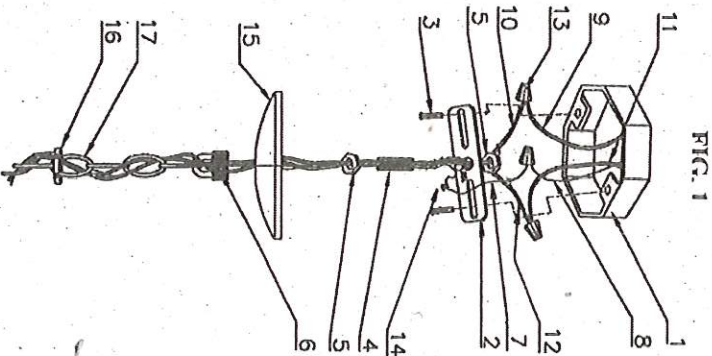

FIG. 1
1. Take the parts out of the mounting package. Screw the end of the NIPPLE (4) into the center hole of the MOUNTING BRACKET (2) and thread both 1/8" IPS HEX NUTS (5) several turns onto each end of the NIPPLE (4) but do not tighten the 1/8" IPS HEX NUTS (5). Pull the SUPPLY WIRES (9 & 11) and the SUPPLY GROUND WIRE (8) out from the OUTLET BOX (1) and attach the MOUNTING BRACKET (2) assembly to the OUTLET BOX (1) using the slotted holes of the MOUNTING BRACKET (2) and the MOUNTING SCREWS (3) provided. (See Fig. 1)
2. Thread the SCREW COLLAR LOOP (6) onto the bottom end of the NIPPLE (4). Place the CANOPY (15) over the OUTLET BOX (1) and adjust the SCREW COLLAR LOOP (6) and NIPPLE (4) until the midpoint of the outside threads on the SCREW COLLAR LOOP (6) is centered (aligned) with the surface of the CANOPY (15). Remove the CANOPY (15) and tighten both 1/8" IPS HEX NUTS (5) down on the MOUNTING BRACKET (2) and the SCREW COLLAR LOOP (6). (See Fig. 1)
3. Thread the NIPPLE (21) onto the HICKY (22), secure with the HEX NUT (22), slide the TOP FONT (20), WASHER (19) over the NIPPLE (21), thread the FIXTURE LOOP (18) onto the NIPPLE (21) till tight.
4. Open up the end links of the CHAIN (17) and attach one end of the CHAIN (17) onto the FIXTURE LOOP (18). Slide the THREADED RING (16) and the CANOPY (15) onto the CHAIN (17) (in that order) and attach the other end of the CHAIN (17) to the SCREW COLLAR LOOP (6). Close the ends of the chain links. (See Fig. 1 and 2)
5. Unravel the fixture lead wires (10 and 12) and FIXTURE GROUND WIRE (7) and thread them through every other link of the CHAIN (17) starting with the chain link attached to the FIXTURE LOOP (18). Feed the fixture lead wires (10 and 12) and FIXTURE GROUND WIRE (7) through the SCREW COLLAR LOOP (6) and NIPPLE (4) assembly. Pull the fixture lead wire (10 and 12) and the FIXTURE GROUND WIRE (7) upward to remove any excess slack. (See Fig. 1)
6. Attach the power supply wires to the fixture lead wires by connecting the BLACK SUPPLY WIRE (9) to the SMOOTH FIXTURE LEAD WIRE (10) and the WHITE SUPPLY WIRE (11) to the RIBBED FIXTURE LEAD WIRE (12). Loop the FIXTURE GROUND WIRE (7) around the GROUND SCREW (14) of the MOUNTING BRACKET (2). (Note: Be sure to provide an extra 3" length of the GROUND WIRE (7).) Connect the remaining FIXTURE GROUND WIRE (7) to the SUPPLY GROUND WIRE (8) using a WIRE CONNECTOR (13). Place wiring and connections inside the OUTLET BOX (1). (See Fig. 1)
7. Slide the CANOPY (15) and the THREADED RING (16) up the CHAIN (17). Place the CANOPY (15) over the OUTLET BOX (1) and secure it in place by screwing the THREADED RING (16) onto the SCREW COLLAR LOOP (6). (See Fig. 1)
8. Thread the NIPPLE (24) onto the COUPLING (23), slide the BOTTOM FONT (25) over the NIPPLE (24), secure with the FINIAL (26).